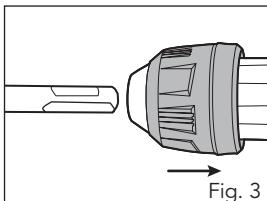

Fig. 3
2. Pull and hold the locking sleeve back. Insert the SDS-plus accessory (Fig. 3).